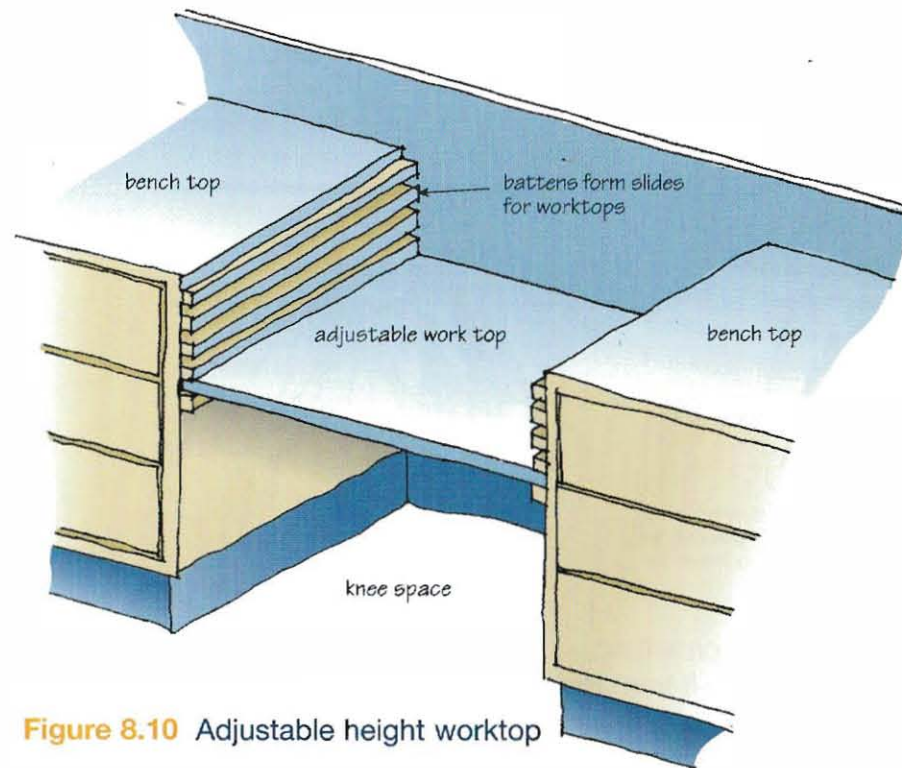

Figure 8.10 Adjustable height worktop
- adjustable height worktops as illustrated in figure 8.10.